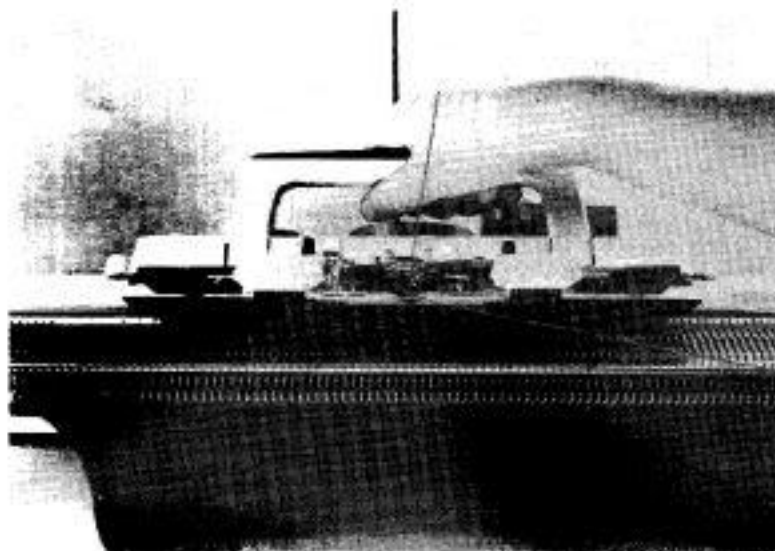

Fig. 74
There are two methods of moving the carriage across working needles without affecting the knitting, (1) by first turning the leading Pattern Control Knob to 'S', or (2) by lifting the Carriage slightly at the front as shown in Figs. 74 and 75. But in either case, it should be remembered to push in the Row Counter Trip Arm so that it will not operate the Pattern Master or Row Counter. With the Carriage on the left push back into Position (B) three needles opposite figures 7, 4 and 2 on the N.S.G.S. Insert the first colour yarn into the leading Subsidiary Feeder and, guiding the yarn with your left hand, knit this row by moving the carriage from left to right.